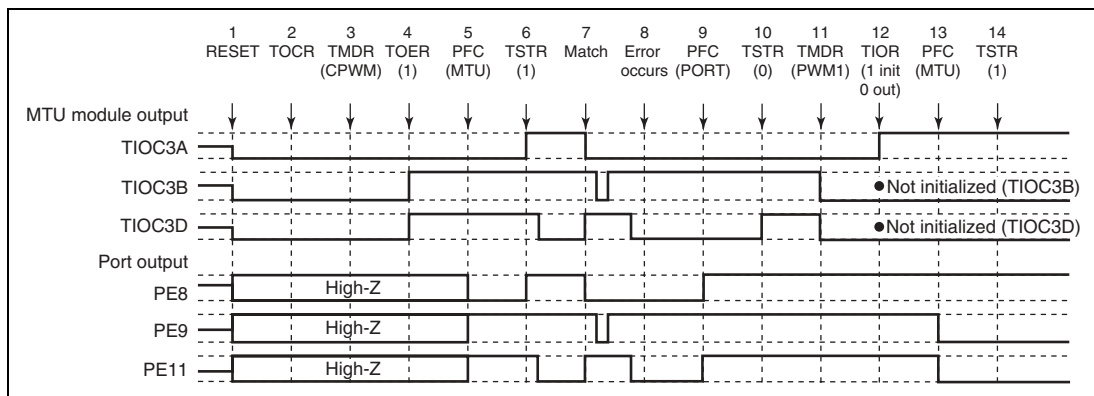

**Figure 11.106 Error Occurrence in Complementary PWM Mode, Recovery in PWM Mode 1**
**Operation when Error Occurs during Complementary PWM Mode Operation, and Operation is Restarted in PWM Mode 1:** Figure 11.106 shows an explanatory diagram of the case where an error occurs in complementary PWM mode and operation is restarted in PWM mode 1 after re-setting.